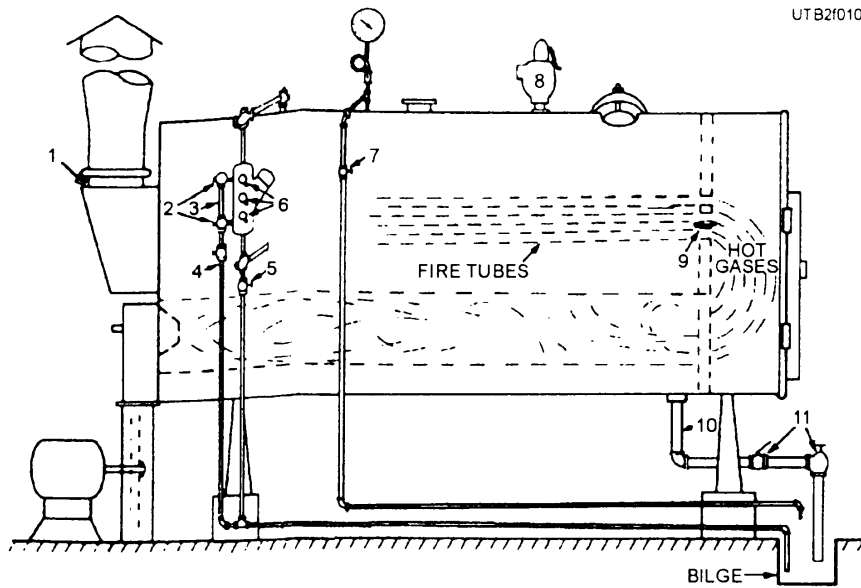

Figure 1-6.—Boiler fittings.
Now that the basic structure of a boiler has been explained, boiler fittings (fig. 1-6) and the operation or function of various devices, such as controls, valves, and try cocks, must be presented. A sufficient number of essential boiler fittings and accessories are discussed in this section to provide a background for further study. As a reminder, and in case you should run across some unit
An air cock is located in the uppermost steam space of a boiler, as shown in item 7 in figure 1-6. This design allows for air to enter and escape during filling and draining of the boiler. Before firing a cold boiler with no steam pressure, the air cock is opened to allow air to escape during the heating of the water. When steam begins to come out of the air cock piping, close the valve.
The FORCED-DRAFT fan forces air through the fuel bed, or fuel oil burner, and into the furnace to supply air for combustion. The INDUCED-DRAFT fan draws gases through the setting, thus facilitating their removal through the stack. Breechings (see item 1 in fig. 1-6) are used to connect the boiler to the stack. They are usually made of sheet steel with provision for expansion and contraction. The breaching may be carried over the boilers, in back of the setting, or even under the boiler room floor. Keep breechings as short as possible and free from sharp bends and abrupt changes in area. The cross-sectional area should be approximately 20 percent greater than that of the stack to keep draft loss to a minimum. A breaching with a circular cross section causes less draft loss than one with a rectangular or square cross section.
Blowdown valves on boilers are located on the water column and on the lowest point of the water spaces of the boiler (see items 2, 5, 10, and 11 in fig. 1-6). The blowdown valves on a boiler installed at the bottom of each water
The location of the try cocks is shown as item 6 in figure 1-6. The purpose of the try cocks is to prove the water level in the boiler. You may see water in the gauge glass, but that does not mean that the water level is at that position in the boiler. If the gauge glass is clogged up, the water could stay in the glass giving a false reading. The try cocks, on the other hand, will blow water, steam, or a mixture of steam and water out of them when they are
The gauge glass is located on the water column, as shown in figure 1-6, item 3. The gauge glass allows the boiler operator to see the water level in the boiler. Normally there are two valves associated with the gauge glass. One valve is located at the top and one is located at the bottom of the gauge glass. These two valves, named gauge cock valves (fig. 1-6, item 2), secure the boiler water and steam from the gauge glass. Another valve (fig. 1-6, item 4) located in line with the gauge glass, is used to blow the gauge glass down.
be seen in figure 1-6, item 8. Each boiler has at least one safety valve; when the boiler has more than 500 square feet of heating surface, two or more valves are required.